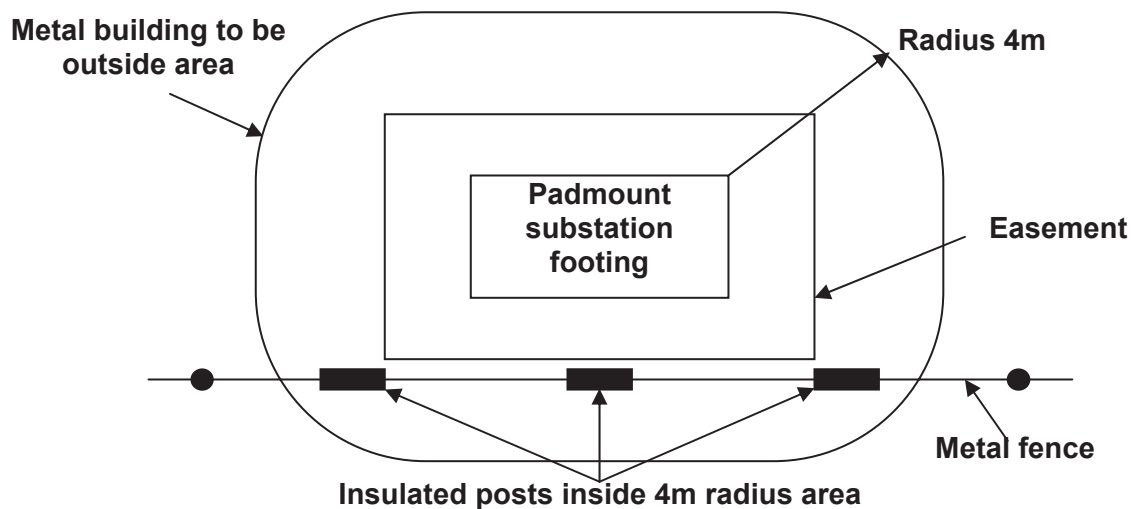

Figure 7.3.1E – Metal fence or metal clad building exclusion area
- c) If a metal object, including pipes, buildings or fences, passes through the area, they shall be constructed in such a way that the objects/posts insulate the adjacent panels from each other and from the ground. Refer Figure 7.3.1E and Drawing no. 016665. A suggested method of isolating a metallic fence is shown on Drawing no. 061674.